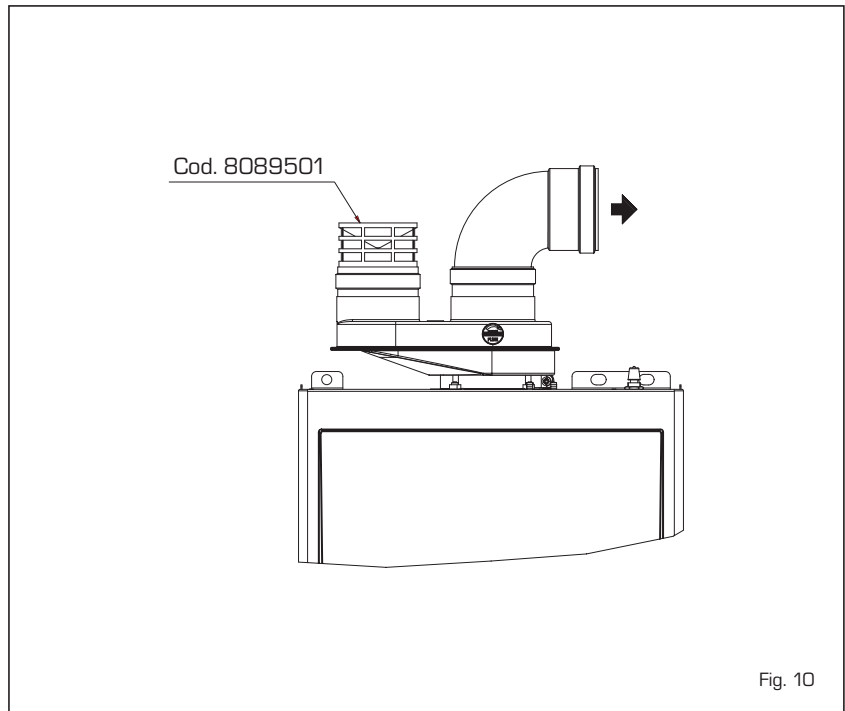

Fig. 10
2.9 FORCED EXHAUST TYPE B22P-B52P (fig. 10)
Protect the intake with the optional accessory, code 8089501 (fig. 10). The air/com-bustion product divider code 8093020 is supplied with aspiration diaphragm that must be engaged, depending on the maximum head loss allowed, as indicated in fig. 8/a.